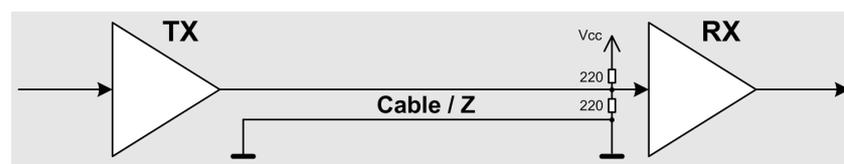

Figure 68: Recommended line termination
- ▶ If you observe such impairments, terminate the clock line using two resistors, see Figure 68 on page 61.
- ▶ If you observe distortion of the **Clock** signal near the threshold, terminate the cable at the transfer point with two 220 ohm resistors (see Figure 68).
In rare cases, data signal crosstalk can be observed on the clock cable. Here, too, termination in accordance with Figure 68 offers a reliable remedy.